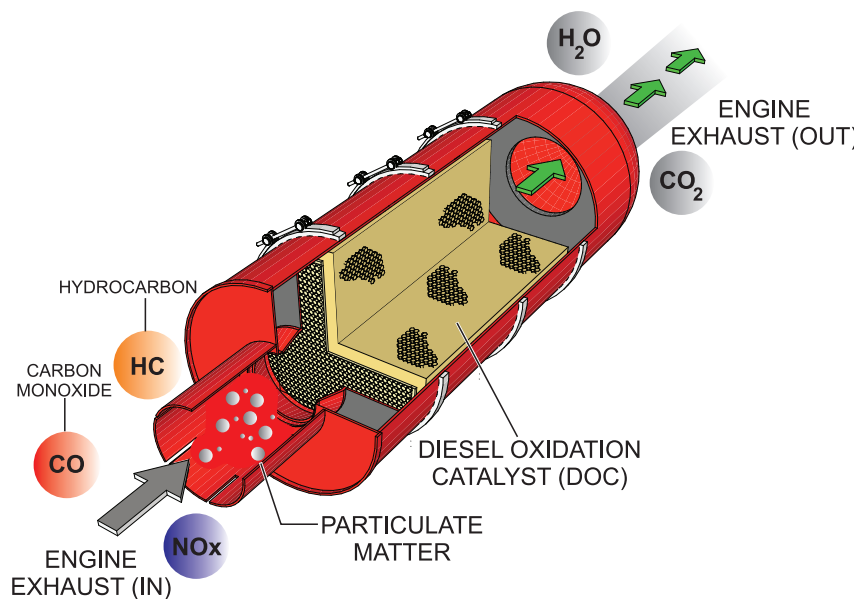

Figure 79. Diesel Oxidation Catalyst (DOC)
The DOC device (Figure 79) helps in filtering out large amounts of harmful nitrogen oxides ( $\text{NO}_x$ ) and particulate matter (PM) which are emitted by diesel engines. These exhaust emissions pose serious environmental and health risks. It is important to maintain and service the DOC emission safety device on a periodic basis.